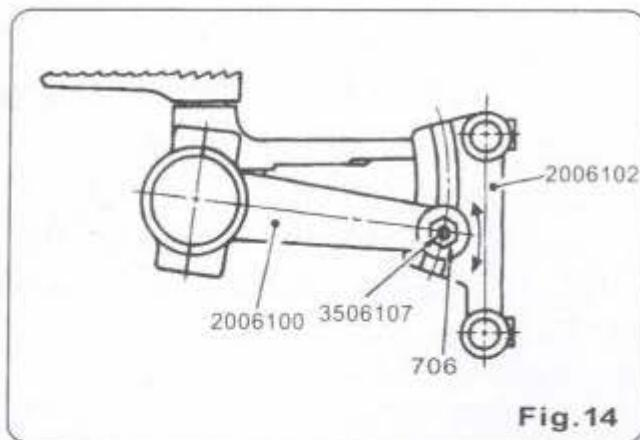

Fig.14
The stitch length adjustable in the range of 7 to 16mm. Your machine is set at the standard stitch length of 10mm in our point before shipment. To adjust, loosen nut (706) of feed regulating stud (3506107) which connects feed rocker (2006102) and feed rod (2006100), and move feed regulating stud vertically, as shown in (Fig. 14). Bringing down the stud makes the stitch longer and moving it up shorter. After the adjustment, never forget to tighten the nut..